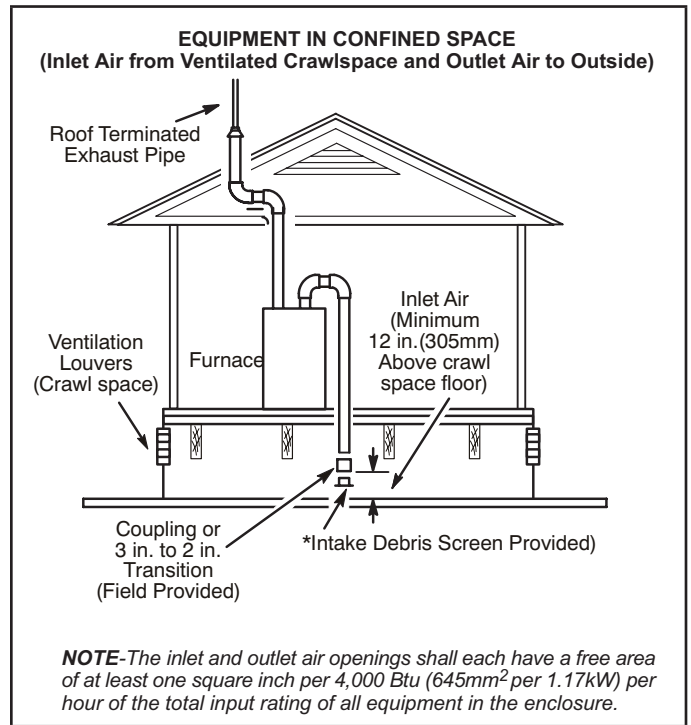

FIGURE 30
- 2 - If intake air is drawn from a ventilated crawlspace (FIGURE 30) or ventilated attic (FIGURE 31) the exhaust vent length must not exceed those listed in TABLE 8. If 3" diameter pipe is used, reduce to 2" diameter pipe to accommodate the debris screen.